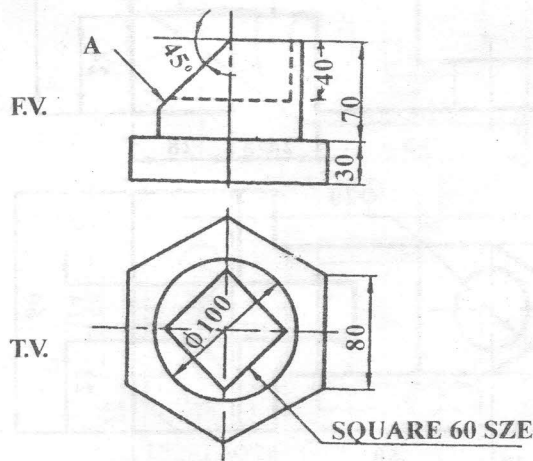

Fig. 3
Q.5) SUPPORT BRACKET is shown in the **fig. 3** : Draw to full scale the following views; (1) Given views (2) An Auxiliary View in direction A (3) Give all dimensions. **[4+8+3=15]**